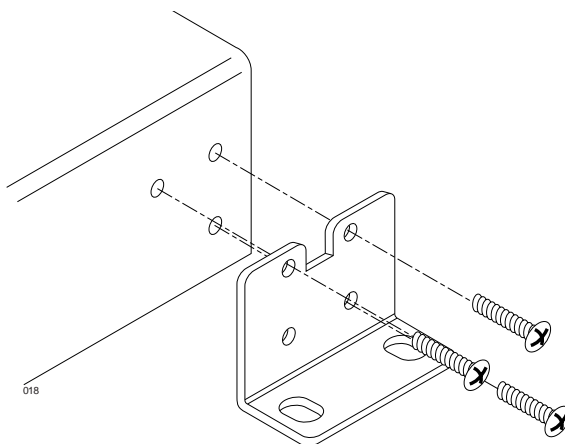

Figure 2-3 Positioning Brackets for Wall Mount
- To mount the unit to a wall, first attach the mounting brackets as shown in Figure 2-3.